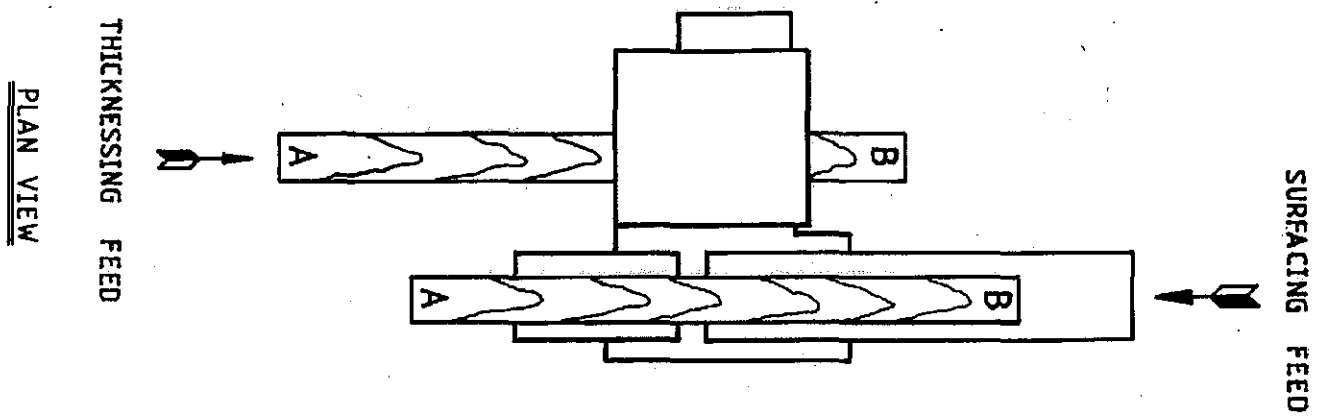

Fig 22
- 2) Retrieve timber held by power feed unit after surfacing operation and feed back into machine for thicknessing as shown in FIG.22, ie, planed faces against fence and table.